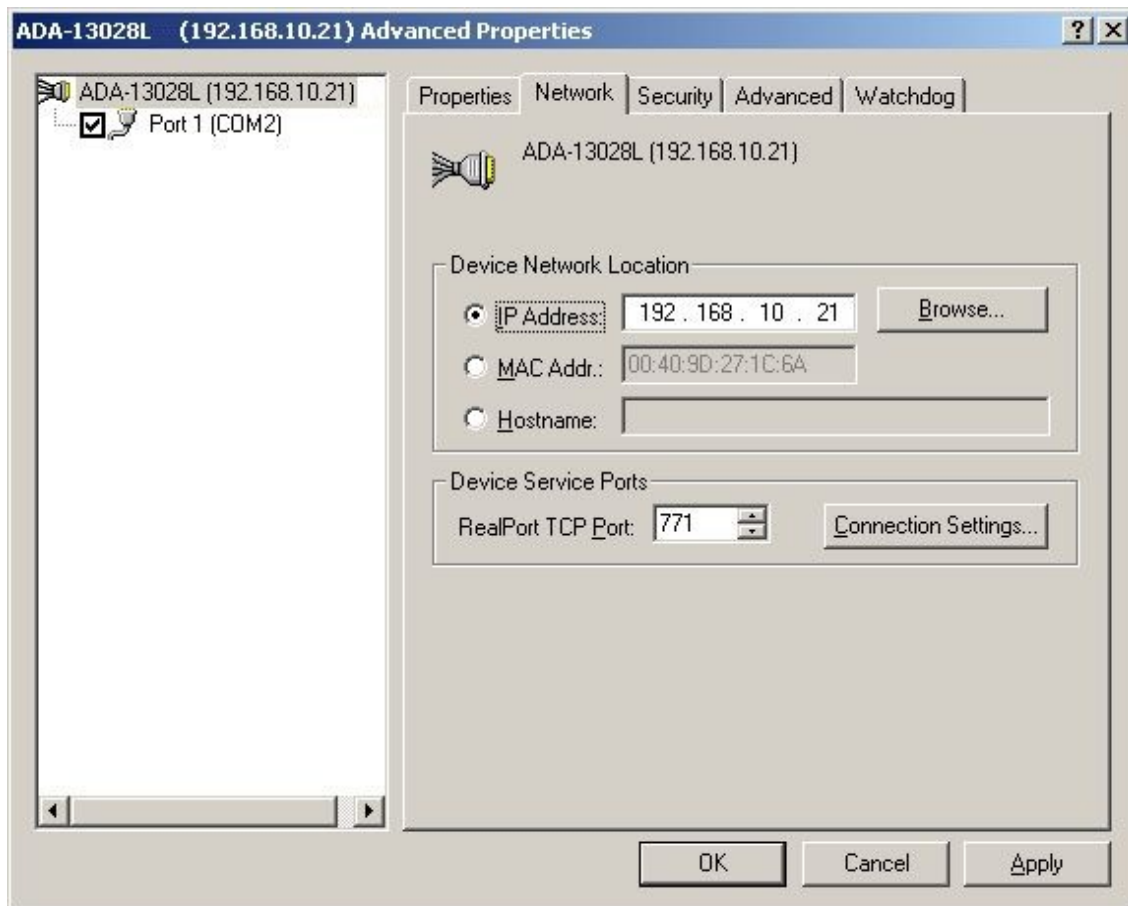

Fig 27. Configuration of multi-port series adapter.
8. **Select IP address, MAC, DNS server for communication with virtual port driver**. In the window **[ Advanced Properties ]** click **[ADA-13028L]** and then select **[Network]** (Fig. 27), and set the **IP address**, **MAC Address** or **DNS name** of the wireless serial server for communication with virtual port driver.